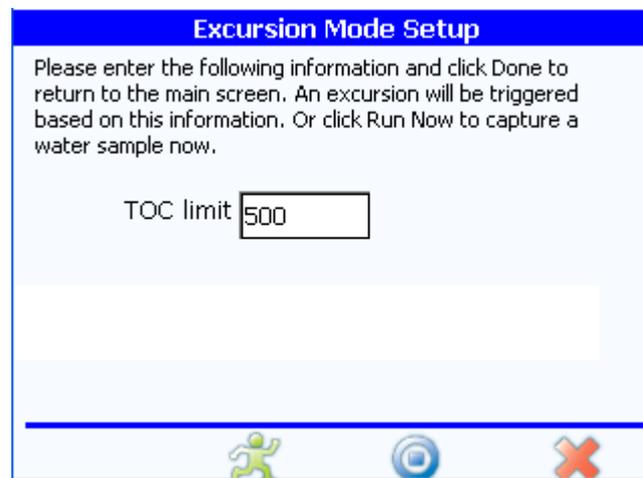

Figure 6-31 Excursion mode setup dialog box
- 3) Touch the forward icon. The excursion mode setup dialog box appears. See Figure 6-31.